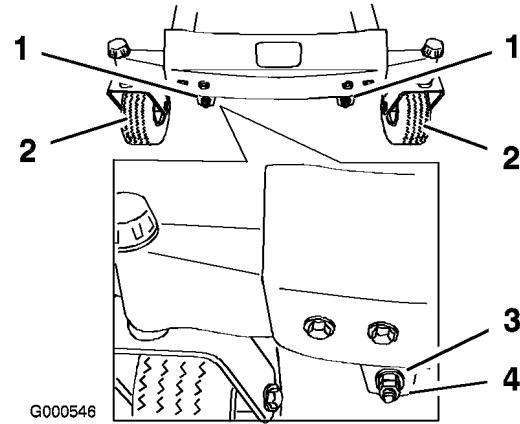
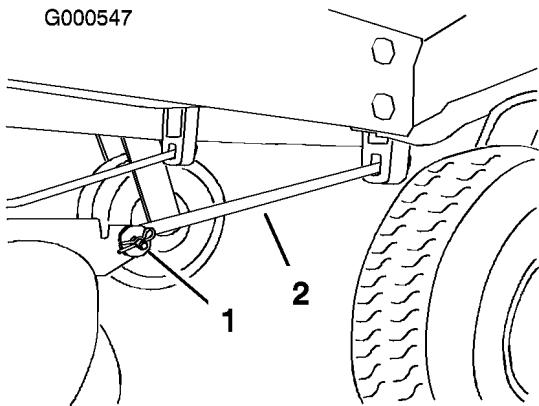

Figure 46
Figure 47
11. To adjust the front-to-rear blade slope, remove the locknuts and then rotate the adjustment nuts in the front of the mower (Figure 46).
adjusting the nuts until the front blade tip is 1/16-5/16 inch (1.6-7.9 mm) lower than the rear blade tip (Figure 46).
Note: After adjusting the adjustment nuts, make sure there is no slack in either support rod (Figure 47). Tighten either one to remove the slack (Figure 46).
4. Remove the hairpin cotter and clevis pin from the front support rod on each side of the mower (Figure 47).
7. Attach the front support rods to the machine with the clevis pins and hairpin coppers (Figure 47).